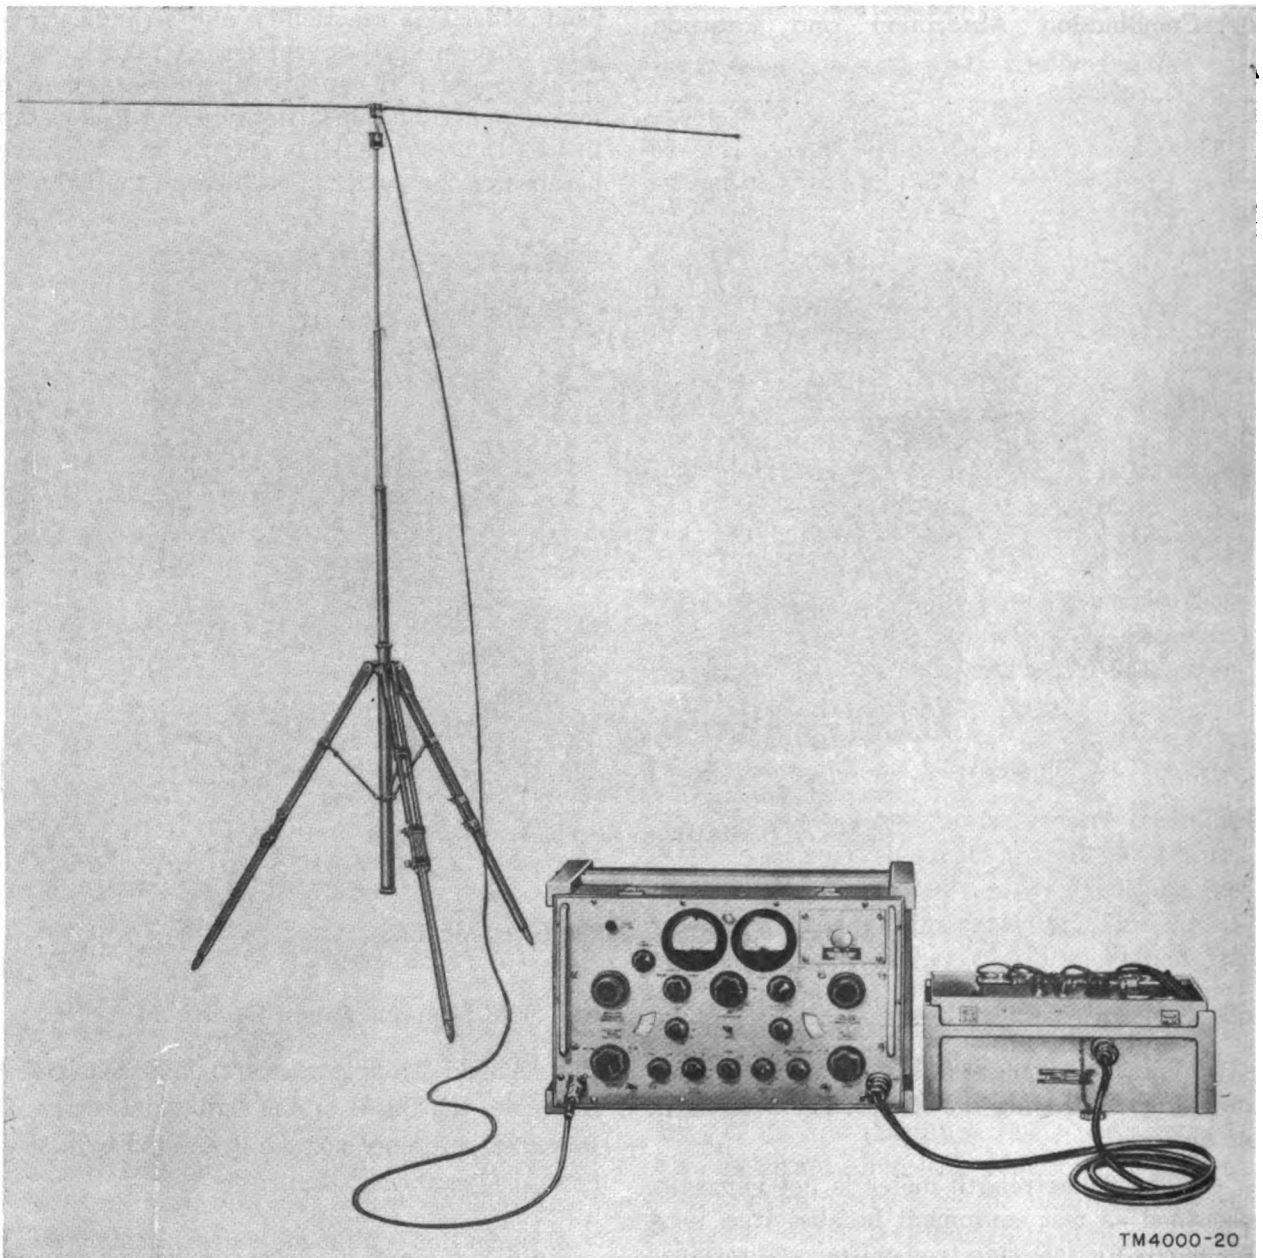

Figure 37. Absolute field-strength meter.
c. To determine the best site for a transmitter, move the field-strength meter from place to place, and compare the readings at each location. Place the field-strength meter in the desired receiver location and move the transmitter, if portable, to produce the best results. An absolute field-strength meter is shown in figure 37.
a. General. A large number of communication sets used in the military forces are composed of several basic components connected together with multiconductor cables to form an operating unit (fig. 37). These cables conduct signal, power and control voltages between the various units that form the complete installation. Sometimes cable in vehicular installations are difficult to inspect because they are inaccessible, having been built into the vehicle at the time of manufacture. Cable troubles in this type of installation are often difficult to find and spare cables of sufficient length are not always available. A radio set may have a transmitter that is being keyed constantly, but the key is not being operated. The trouble could be caused by a shorted capacitor across the keying conductors, or the conductors could be shorted internally.